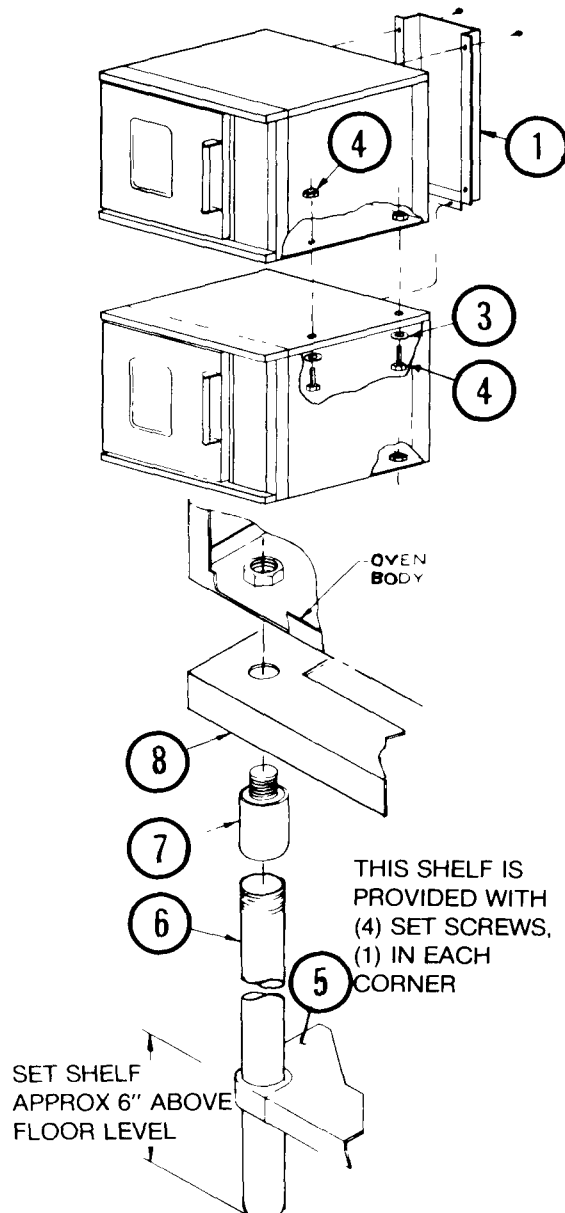

Figure 2-3
1. Insert legs (Fig. 2-3 No. 6) through holes in shelf (Fig. 2-3 No. 5). Do not tighten set screws in corners of shelf.
2. Screw leg tops (Fig. 2-3 No. 7) onto legs (Fig. 2-3 No. 6).
3. Insert leg tops (Fig. 2-3 No. 7) through holes in angle iron frame (Fig. 2-3 No. 8) into weldnuts in bottom of oven.
4. Screw leg tops (Fig. 2-3 No. 7) into weldnuts by turning leg and leg top assemblies.
5. Raise shelf (Fig. 2-3 No. 5) to desired height and tighten set screws in shelf corners.
9. Fasten ovens together with the washer (Fig. 2-3 No. 3) and bolt (Fig. 2-3 No. 2) inserted up thru top of lower oven into bottom of upper oven using the existing weld nut to fasten the rear and the nut provided with the stacking kit (Fig. 2-3 No. 4) to fasten the front.
10. Remove the existing vent covers from each oven and replace with the vent riser (Fig. 2-3 No. 1) using the fasteners just removed.